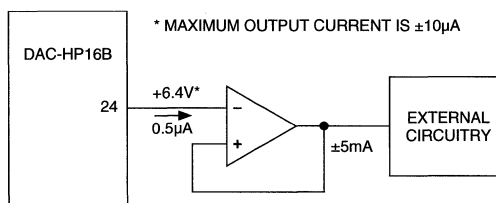

Figure 2. Use of Reference Output
3. If the reference output (pin 24) is used, it must be buffered by an operational amplifier in the noninverting mode. See Figure 2. Current drawn from pin 24 should be limited to ±10µA in order that the temperature coefficient of the reference circuit not be affected. This is sufficient current for the bias current requirements of most popular operational amplifier types.